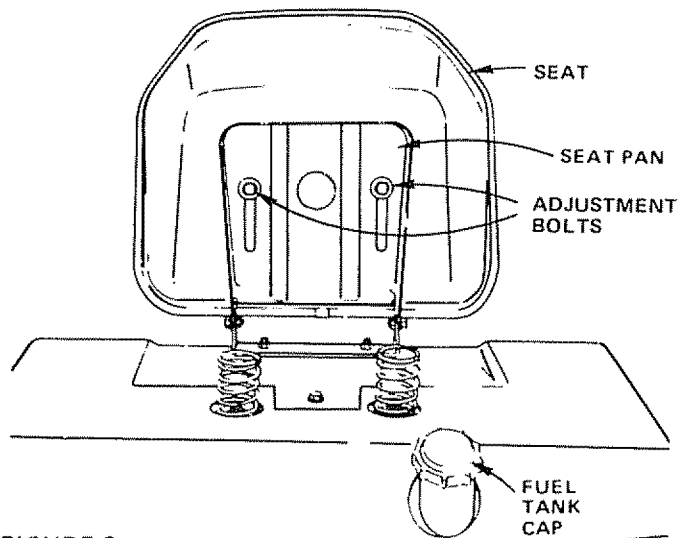

FIGURE 6
- c. Place Seat on Seat Pan. Screw 3/8" Adjustment Bolts, Lockwashers and Flat Washers into Seat (Fig. 6). Adjustment Bolts, Lockwashers and Flat Washers found in Bag of Parts. Tighten finger tight.
- e. Raise Seat. Use 9/16" wrench to loosen Adjustment Bolts (Fig. 6). When adjusted for comfortable operation, tighten Adjustment Bolts securely.
2. Fill Fuel Tank (Fig. 6). Use fresh, clean, regular unleaded automotive gasoline. (Use of leaded gasoline will increase carbon and lead oxide deposits and reduce valve life). Capacity is 3 - 1/2 gallons.